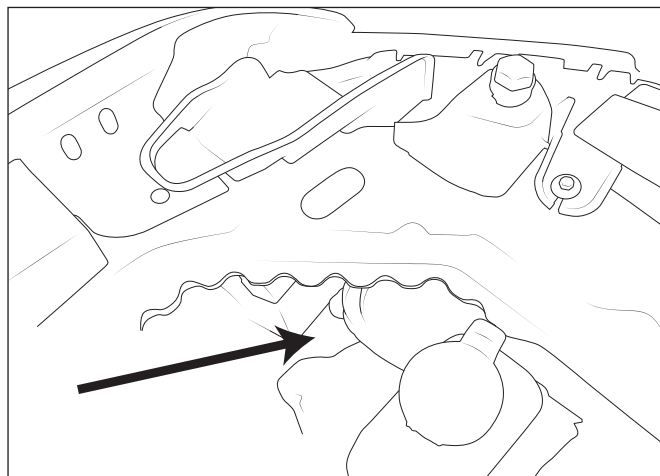

Figure 14
7. Rout the other end of the harness through the bottom of the engine bay (fig. 14)